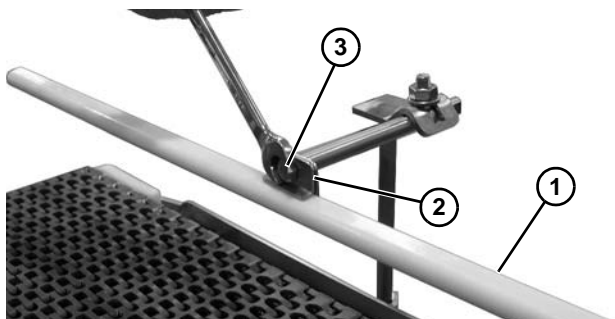

Figure 26
1. Install guide rail (Figure 26, item 1) onto brackets (Figure 26, item 2). Tighten screw (Figure 26, item 3) to secure.